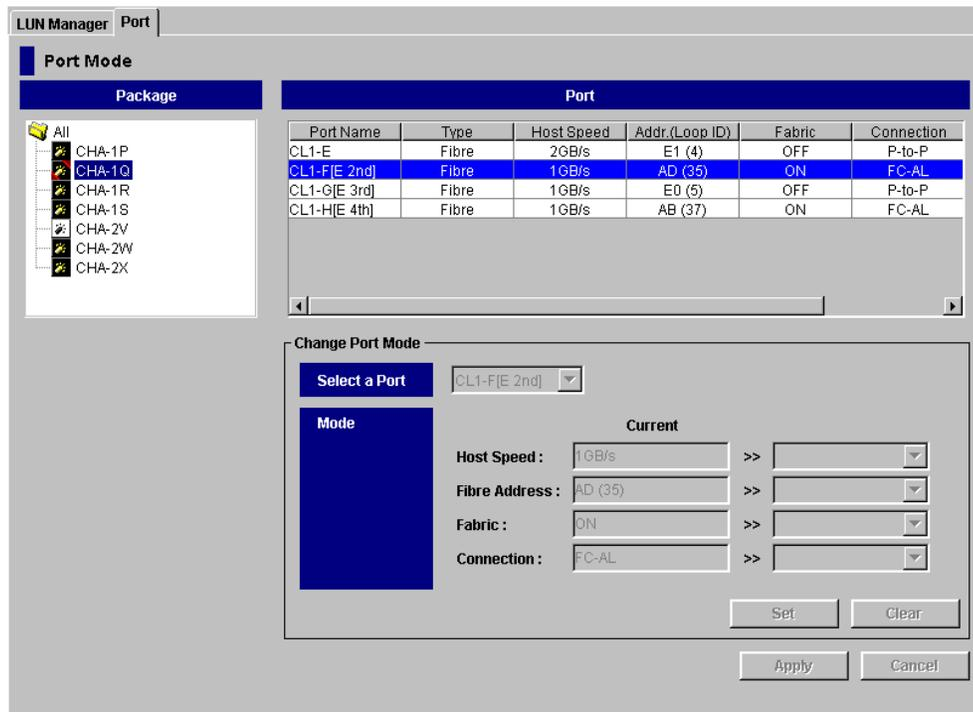

Figure 2.2 Port Mode Panel (Port Tab)
You need to configure the 9900V FC ports to define the fibre parameters (see Figure 2.2 and Table 2.1) and port addresses (see Table 2.2). You will use the LUN Manager remote console software to configure the 9900V FC ports. For instructions on using LUN Manager, please refer to the *Hitachi Freedom Storage™ Lightning 9900™ V Series LUN Manager User's Guide* (MK-92RD105).
**Fibre topology. Fibre topology.** Figure 2.2 shows the Port Mode Panel, which shows the port name, port type, host speed, port address (Loop ID), fabric switch (on or off) and topology (type of connection). Table 2.1 explains the fibre-parameter settings on this panel. You will select the appropriate settings for each 9900V fibre-channel port based on the device to which the port is connected. Determine the topology parameters supported by the device, and set your topology accordingly. The type of 9900V port is also important. **Note:** If you plan to connect different types of servers to the 9900V via the same fabric switch, you must use the **zoning** function of the fabric switch.
**Note on loop ID conflict:** The Windows NT® system assigns port addresses from lowest (01) to highest (EF). To avoid loop ID conflict, assign the port addresses from highest to lowest (i.e., starting at EF). The AL-PAs should be unique for each device on the loop to avoid conflicts. Do not use more than one port address with the same TID in same loop (e.g., addresses EF and CD both have TID 0, refer to Appendix B for the TID-to-AL-PA mapping).